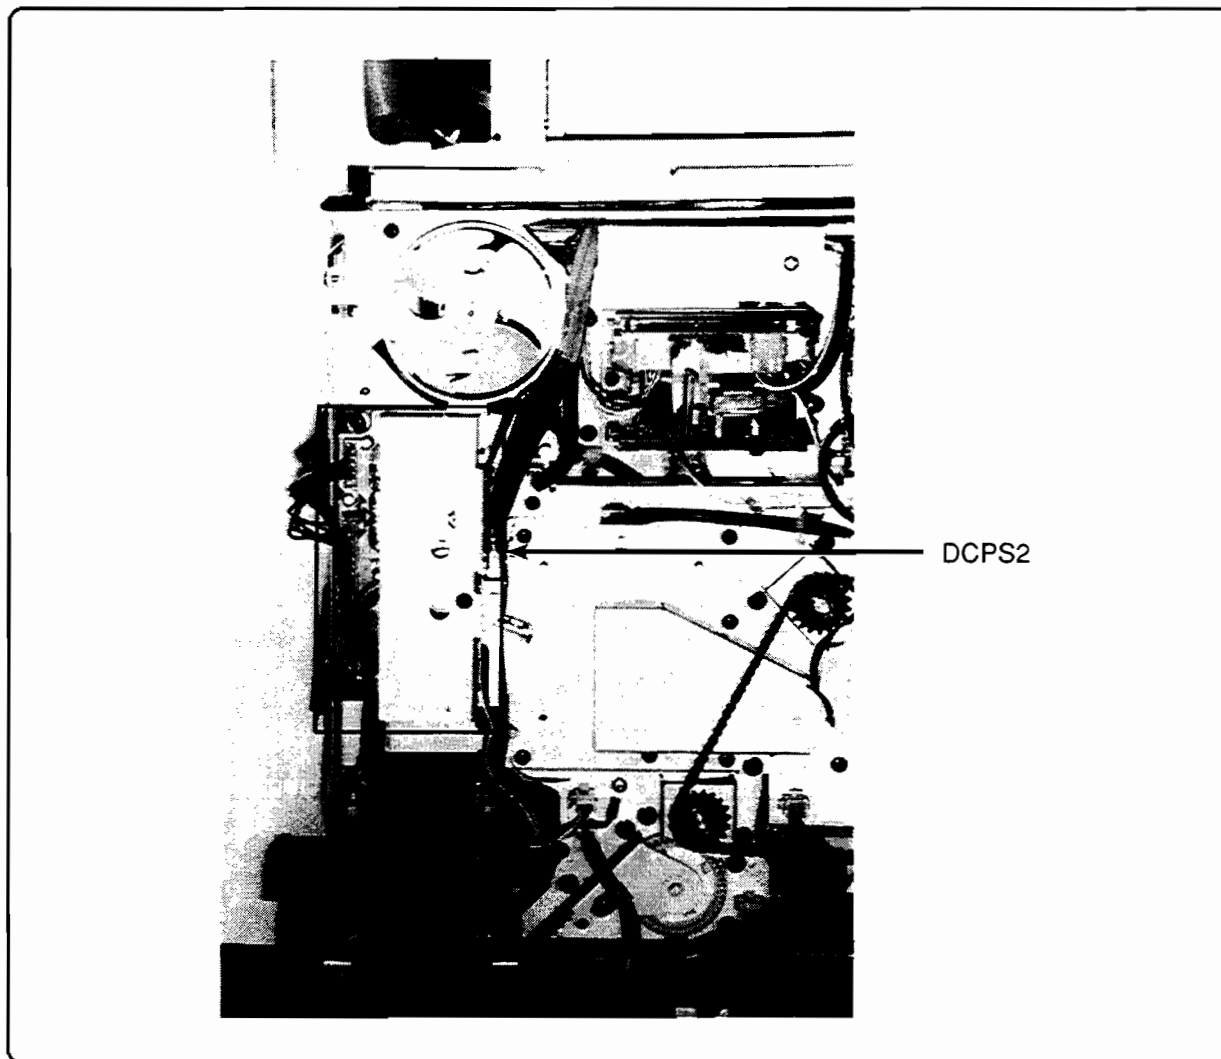

Figure 4-8. Engine-DCPS2 Location
5. Remove Engine-DCPS2 (Figure 4-8).